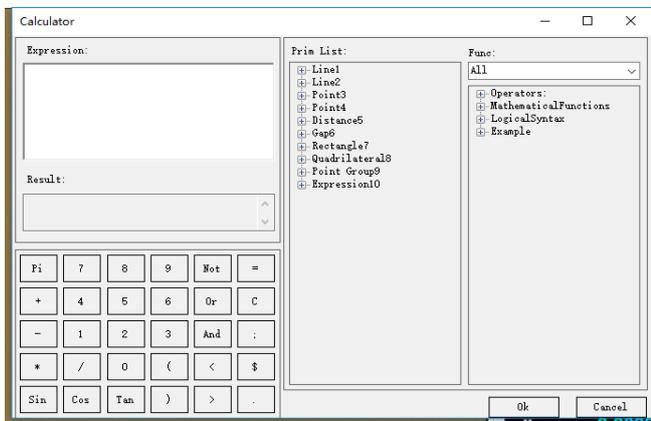

Figure 1
- A. Click on the toolbox primitive "Calculator" and the following box will pop up: (Figure 1)